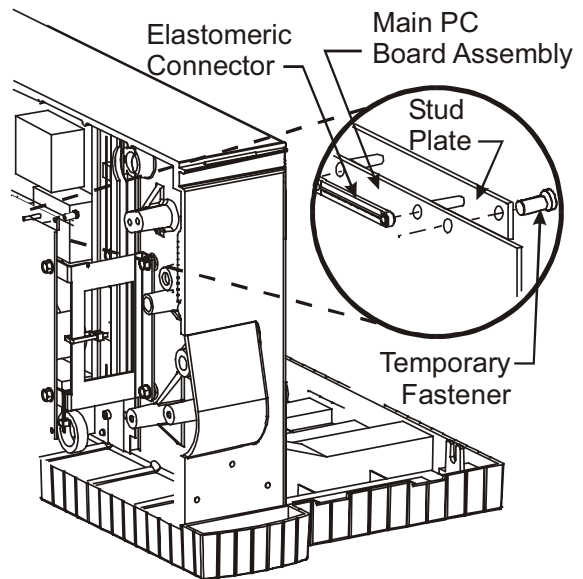

Figure 5. Elastomeric Connector and Stud Plate Installation
5. From behind the main PC board assembly, place the stud plate through the three holes on the main PC board assembly. Also from behind the main PC board, push the temporary fastener through the aligning hole on the right hand side, as shown in Figure 5.
6. Place the elastomeric connector over the stud plate and then the PCMCIA board against the elastomeric connector. Make sure the connector is fully seated and both conductive elements are in place (see Figure 5).